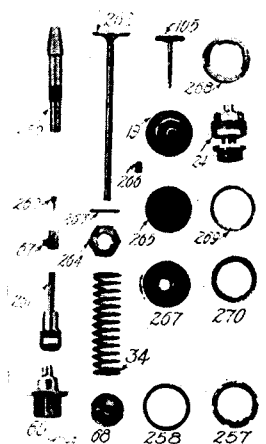

Fig. 58.
52. Intake and exhaust valves and their operating parts; priming and relief valves; cylinder plugs, etc. (See Figs. 58 and 59.)